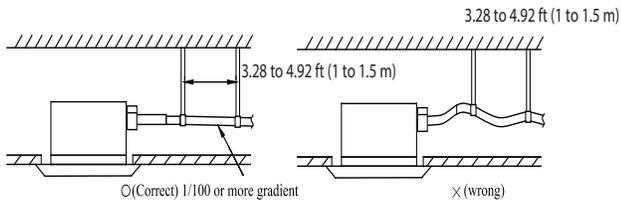

Fig. 34 – Drain Hose
- To prevent a bend in the drain hose, ensure the distance between the hoisting stand is 3.28 to 4.92 ft. (1 to 1.5 m) (see Fig. 34).